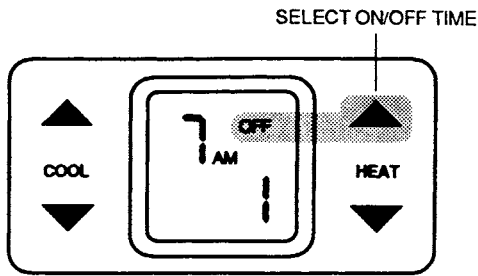

Fig. 14 – Select OFF Time
5. Press the Select ON/OFF button once. The word OFF should now be displayed. See Fig. 14.